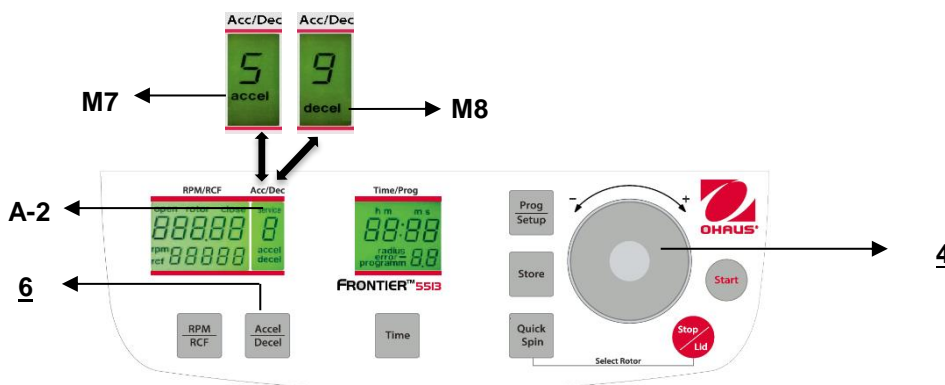

Figure. 18
This function is activated through the key "Accel/Decel" (6) (refer to figure18).